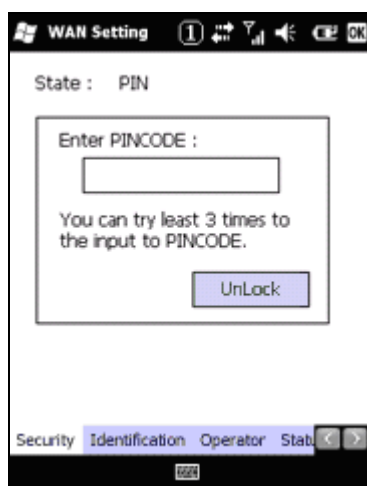

Figure 3-91
3. If the current SIM lock status shows “PIN” in **State** field (see Figure 3.91), it is necessary to reset the PIN lock. Input the correct PIN code in **Enter PINCODE** edit box and tap **Unlock** button. After entering the correct PIN code, the SIM lock status will show “UnLock” in **State** field indicating the PIN lock state is reset.
The limited number of inputting your PIN code is indicated underneath **Enter PINCODE** edit box (see Figure 3.91). In any case your PIN code entry exceeds over this limitation, the PIN status changes to “PUK”. This indicates you need to contact your SIM card supplier to obtain PUK code. While you are entering PIN code, pay your attention not to exceed the limitation.